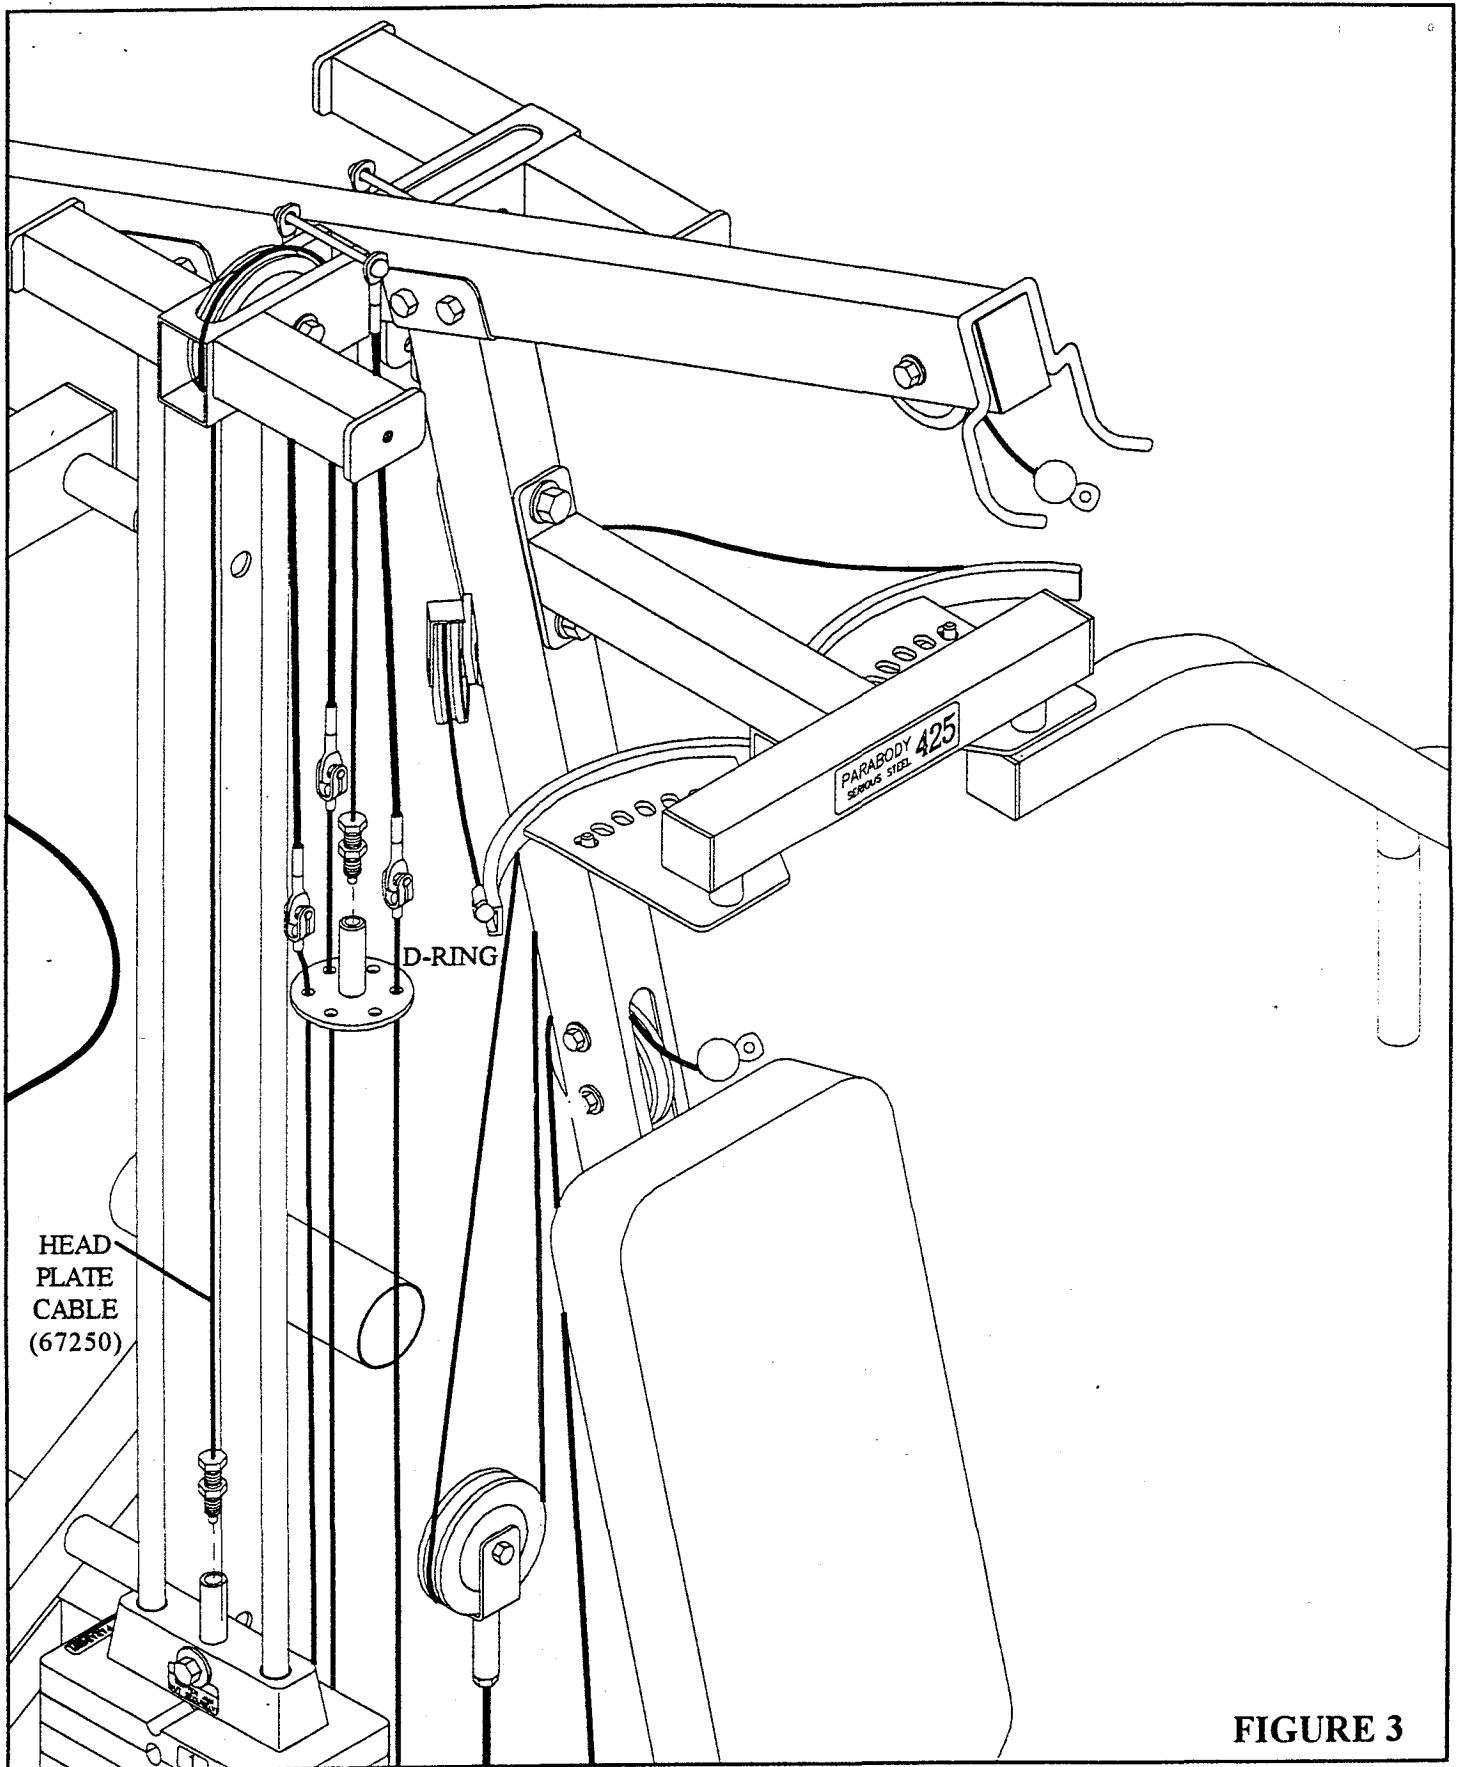

FIGURE 3
- Unscrew the threaded ends of the HEAD PLATE CABLE from the WEIGHT STACK SHAFT & the D-RING and remove HEAD PLATE CABLE. The HEAD PLATE CABLE will be used later. See FIGURE 3. (NOTE: Remove pulleys for ease of removal.)